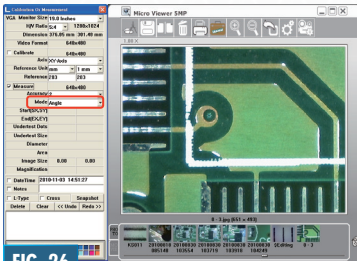

FIG. 26
2. Click the check box next to "Measure." (Fig. 26)